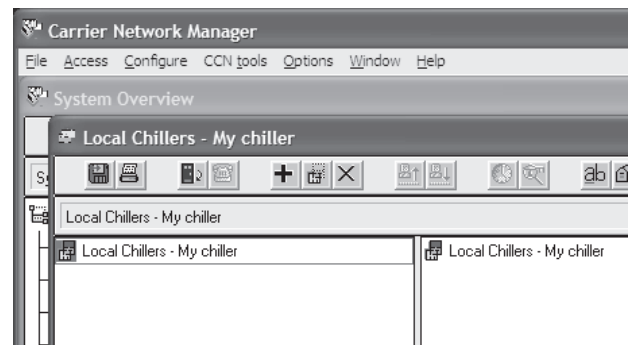

Fig. 11 — “Local Chillers - My chiller” Screen
3. Carrier Network Manager is started with “Local Chillers - My chiller” is displayed, as shown in Fig. 11.